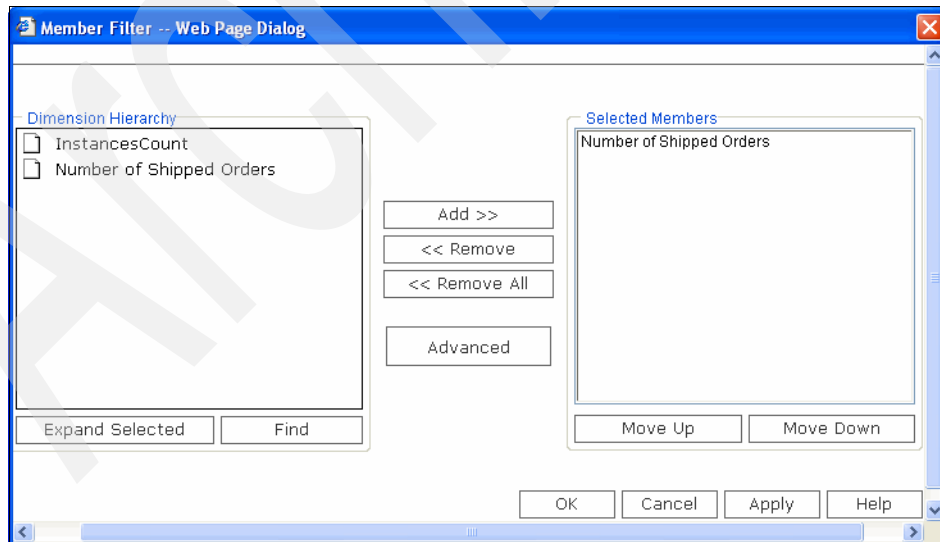

Figure 8-163 Only Number of Shipped Orders selected
15. In the Member Filter -- Web Page Dialog (Figure 8-163), under Selected Members, select **InstancesCount** and click **Remove**. Then click **OK**.